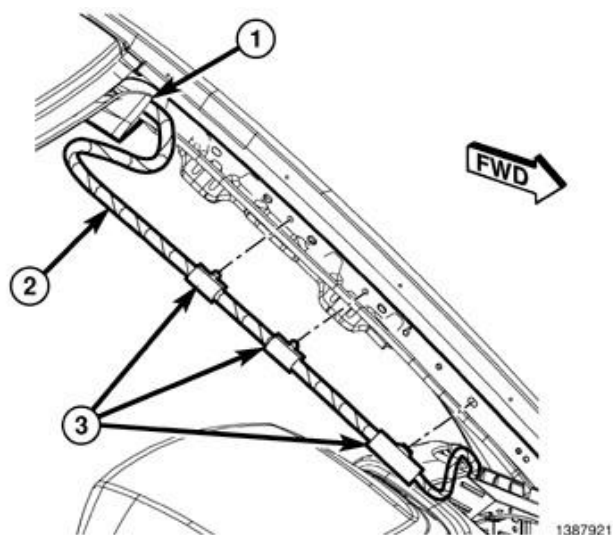

Figure 57 – Headliner Harness
20. As necessary, release the headliner wiring harness clips (3) from the A-pillar to allow enough wiring harness slack for lowering the headliner (Figure 57).
43. Reattach any headliner wiring harness clips (3) removed from the A-pillar to allow slack while lowering headliner (Figure 57).